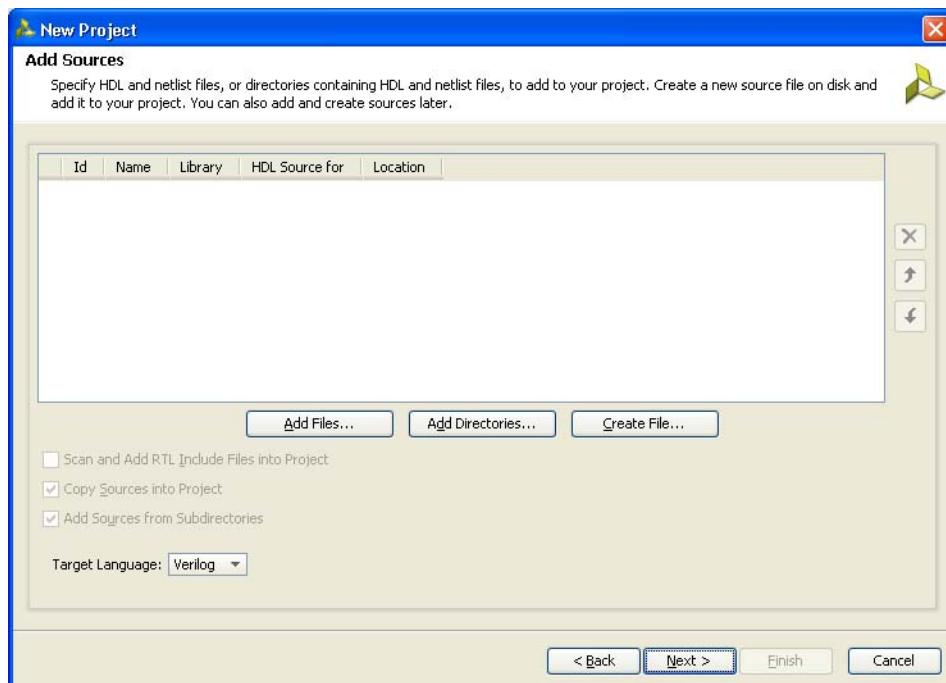

Figure 4-5: Add Sources
5. Click **Next** to proceed to the **Add Sources** page (Figure 4-5). RTL files can be added to the project in this page. If the project was not created earlier, proceed to the next page.